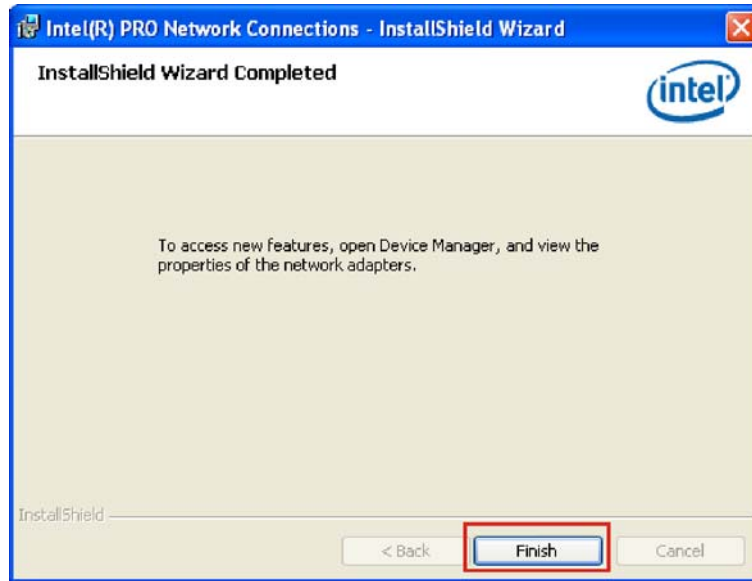

Figure 7-20: LAN Driver Installation Progress
Step 12: The window shows the installation is complete (Figure 7-20).